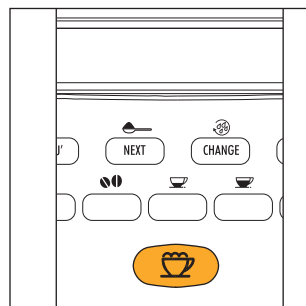

Fig.24
- Press the  button (fig. 24). The appliance displays: